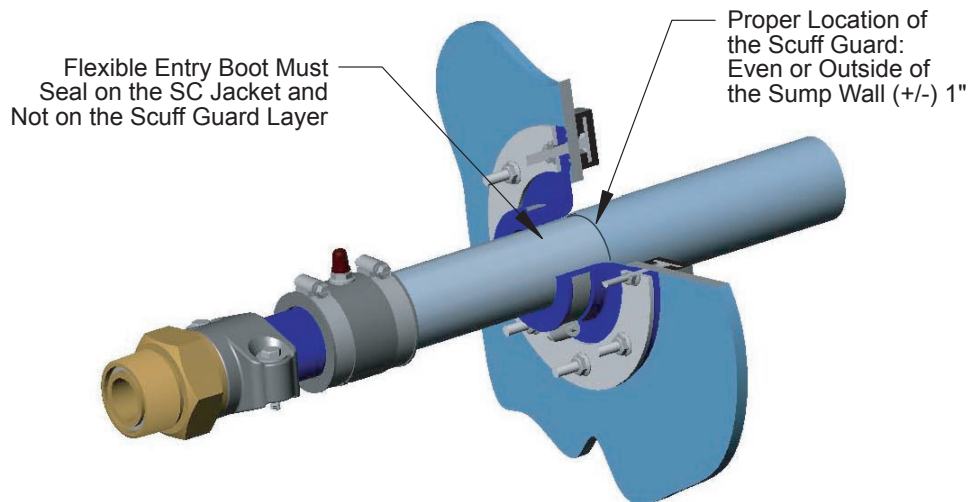

Figure 2 - Correct Scuff Guard Cutback
5. Using a straight-bladed utility knife, insert the blade under the outside scuff guard layer at an angle and make one cut down to the sump wall. Turn the blade and score the scuff guard perpendicular to the pipe at the sump wall. (Figure 2)